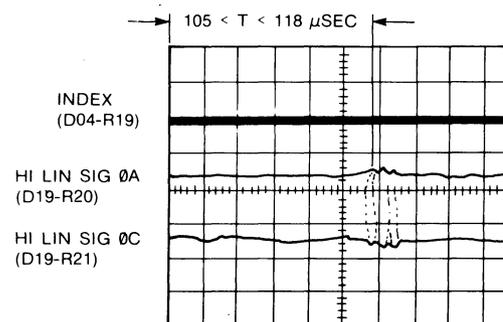

FIGURE 4-13. CIRCUMFERENTIAL ALIGNMENT TIMING
2. The Sync Byte may be recognized by the first of several larger amplitude signals following INDEX when the scope is connected to HI LIN SIG 0A. See Figure 4-13. If the scope is set so INDEX is displayed on the A trace and HI LIN SIG 0A on the B trace, and sweep mode set for Alternate with sync set for Internal Channel A, this timing may be measured at 20 μ sec/cm using the time delay control for readout.